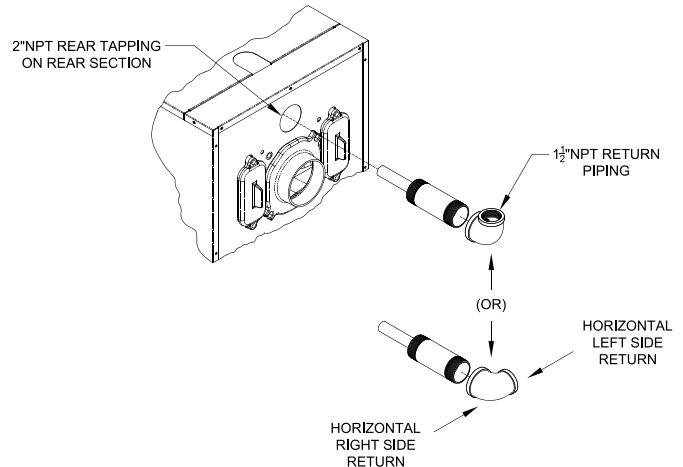

Figure 7: Return Injector Piping and Relief Valve Assembly Details
3. Install return injector piping and relief valve, refer to Figure 7.
NOTE: Based on system return piping and access to service boiler, see Figures 1, 10A and 10B, predetermine if injector piping orientation is to be positioned for vertical, horizontal left or horizontal right side return piping as shown in Figure 7.